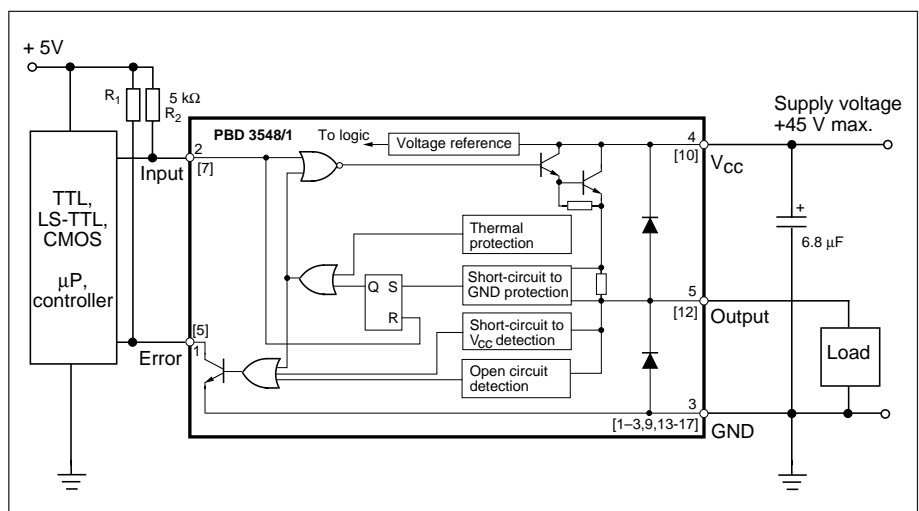

Figure 19. Typical application. Pin numbers refer to TO 220 package.
3. Connect Input and Error via pull-up resistors to the appropriate logic supply level or V_{CC} to obtain highest noise immunity. See figure 19. The resistor R_1 limits the current into the Error indicating pin. This current must not exceed 8 mA. R_2 is a pull-up resistor which improves noise